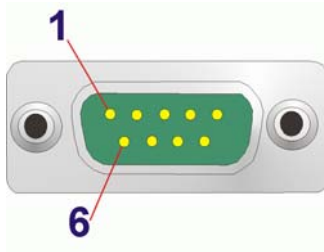

Figure 4-12: Serial Port Pinouts
- CN Pinouts:** See Table 4-7 and Figure 4-12